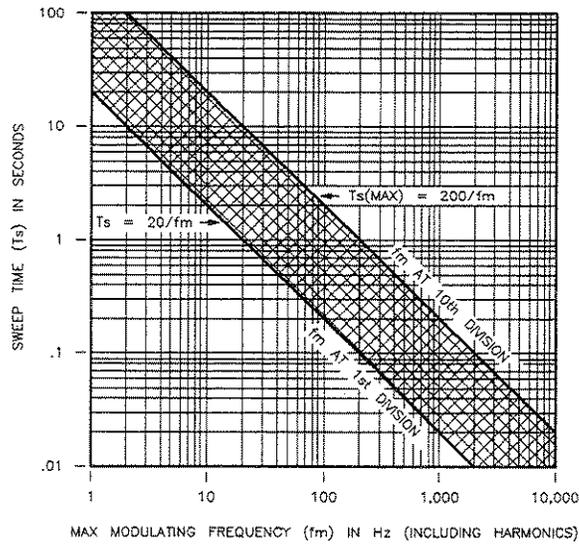

Figure 7-5.
8. Refer to Figure 7-5, which shows maximum modulation frequency (f_m) in Hertz versus sweep time (T_s) in seconds. Set the sweep time less than $T_s(\text{man})$ for the maximum modulation frequency (f_m) including the harmonics of the signal. The upper curve relates the sweep time to the maximum modulation frequency that can be observed (that is, the modulation frequency represented by the right edge of the graticule). The lower curve represents the modulation frequency one division from the left side of the graticule.
Set the sweep time so it falls in the shaded area between the two lines. Refer to Figure 7-5. Set it closer to the bottom line to avoid the effects of aliasing. Note the upper line (marked fm AT 10th DIVISION) represents sampling at exactly the Nyquist rate. Some aliasing may be seen when a value for sweep time is close to the upper line. (Frequencies greater than the maximum modulation frequency for a specific sweep time will not be displayed accurately.)